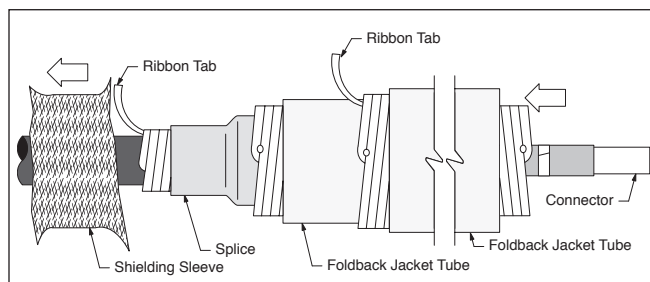

Figure 10
- 4.2 Expand diameter of shielding sleeve by pushing in at ends (to shorten) and slide onto either cable end (Figure 10).
- 4.3 Slide the nested splice and cold shrink foldback jacket tube onto either cable end (Figure 10). For size transitions, parking the splice on the smaller cable is recommended.